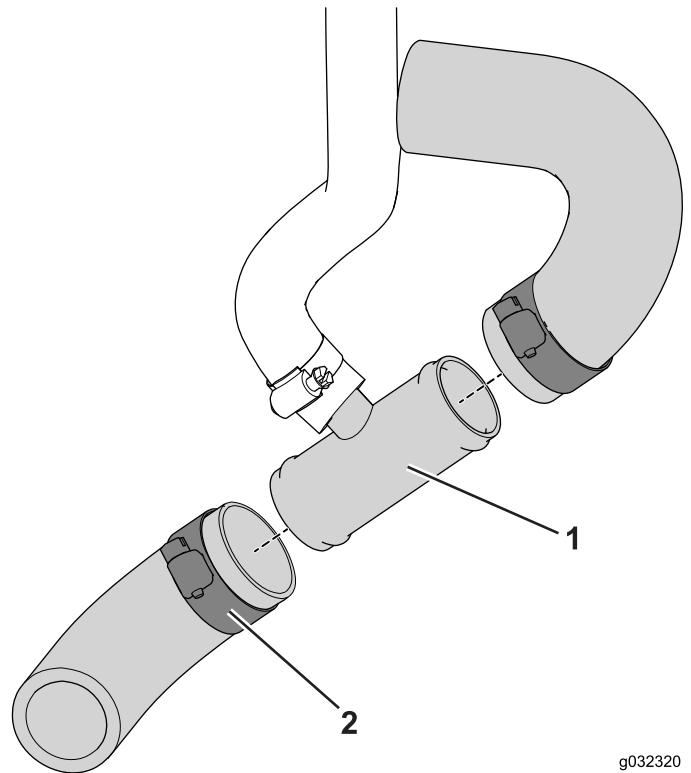

Figure 13
3. Slide the cut ends over the tee fitting and secure it using the hose clamp (3/4 to 1-1/2 inches) as shown in Figure 13.